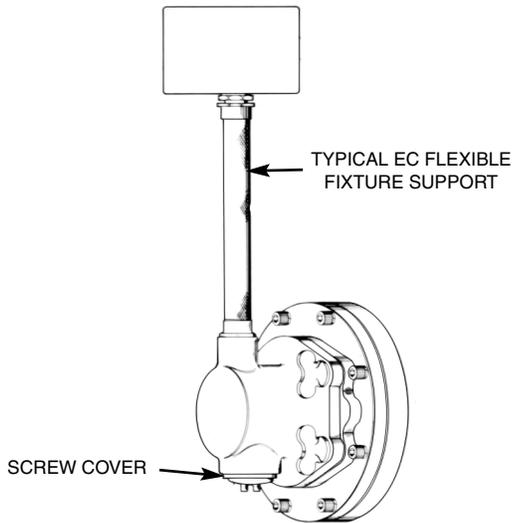

Figure 5.
5. Connect to conduit system. A Crouse-Hinds EC flexible coupling should be used, so that the housing and lamp may be removed for relamping when required. See Figure 5.